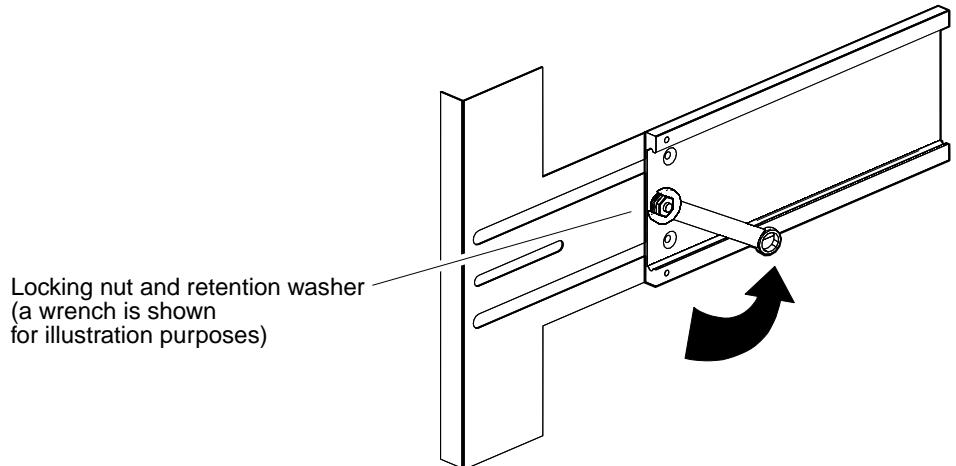

FIGURE 1 Locking Nut
- 8. If locking nuts and retention washers are installed (FIGURE 1), remove them and store for future use.**